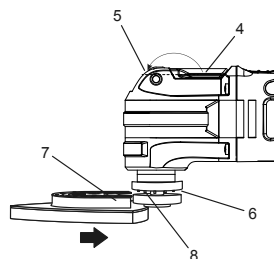

Figure 1
1. Lift the tool less accessory holder release lever (4) up and toward the front of the tool as far as it will go (5). (Figure 1)